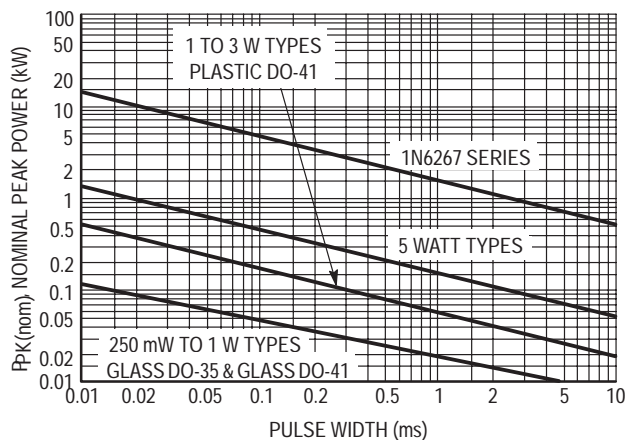
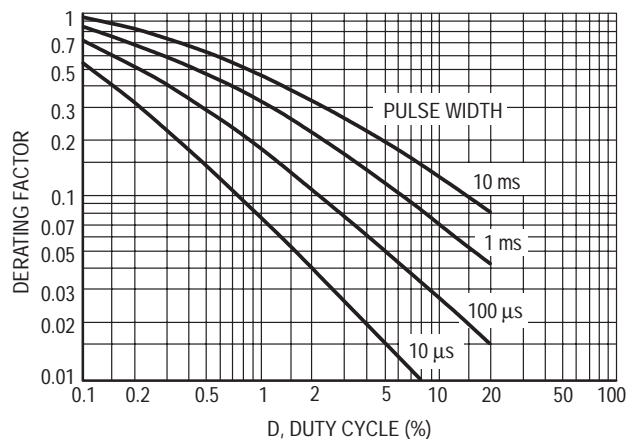

Figure 18. Peak Power Ratings of Zener Diodes
Figure 19. Typical Derating Factor for Duty Cycle
Some Motorola data sheets such as the ones for devices shown in Table 1 contain short pulse surge capability. However, there are many data sheets that do not contain this data and Figure 18 is presented here to supplement this information.
Some data sheets have surge information which differs slightly from the data shown in Figure 18. A variety of reasons exist for this:
3. Large dice are used, or special tests are imposed on the product to guarantee higher ratings than those shown in Figure 18.
The data of Figure 18 applies for non-repetitive conditions and at a lead temperature of 25°C. If the duty cycle increases, the peak power must be reduced as indicated by the curves of Figure 19. Average power must be derated as the lead or ambient temperature rises above 25°C. The average power derating curve normally given on data sheets may be normalized and used for this purpose.
The peak current will equal the on-state transistor current (5 amperes) and will decay exponentially as determined by the coil L/R time constant (neglecting the zener impedance). A rectangular pulse of width L/R (0.01 s) and amplitude of  $I_{\text{PK}}$  (5 A) contains the same energy and may be used to select a zener diode. The nominal zener power rating therefore must exceed  $(5 \text{ A} \times 50) = 250$  watts at 10 ms and a duty cycle of  $0.01/2 = 0.5\%$ . From Figure 19, the duty cycle factor is 0.62 making the single pulse power rating required equal to  $250/0.62 = 403$  watts. From Figure 18, one of the 1N6267 series zeners has the required capability. The 1N6287 is specified nominally at 47 volts and should prove satisfactory.